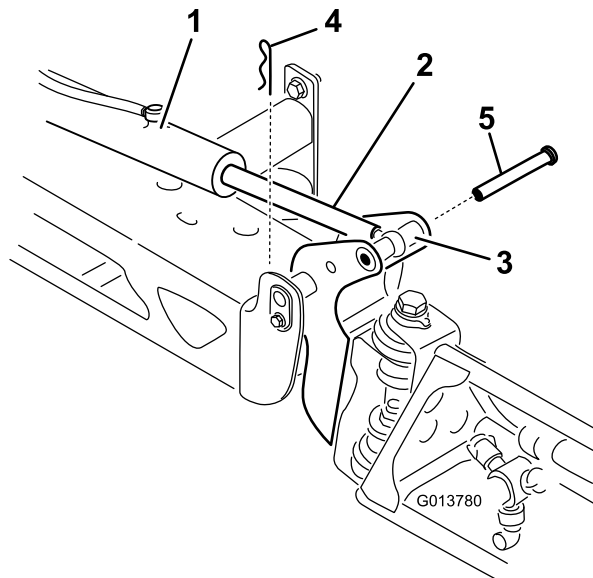

Figure 96
2. Remove the cotter pin from the pivot pin (Figure 96).
3. Lift up on the boom, remove the pin, and slowly lower the boom to the ground (Figure 96).
8. While holding the boom, insert the pin through the boom pivot and actuator rod (Figure 96).